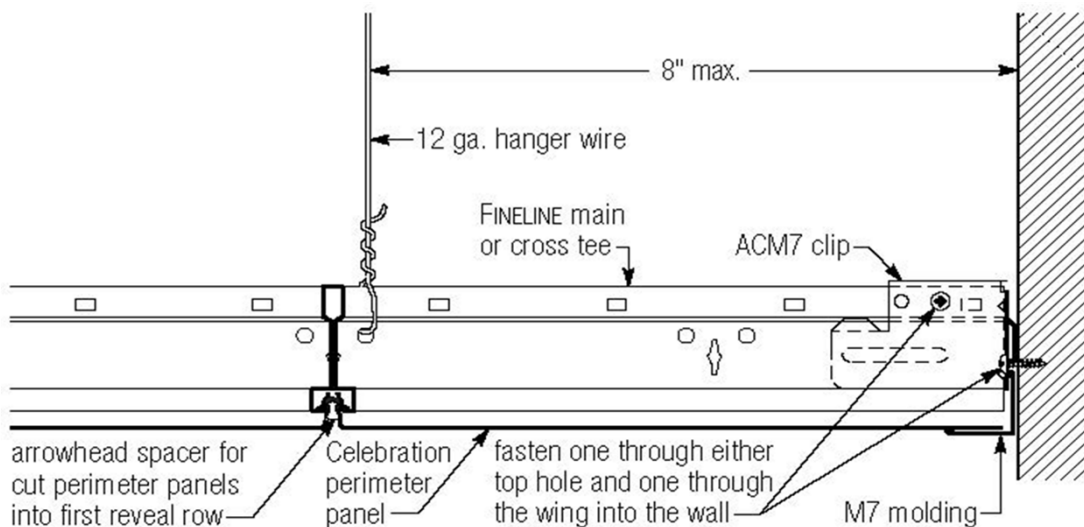
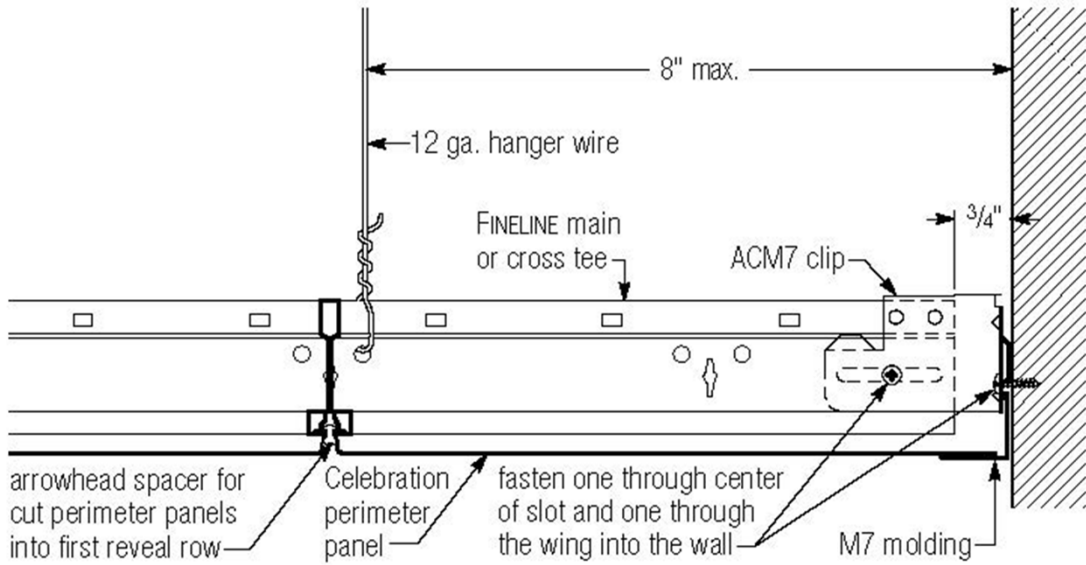

Figure 9 - Use of the ACM7 Seismic Clip Alternative in the **Fixed Perimeter Condition**
Figure 10 - Use of the ACM7 Seismic Clip Alternative in the Floating Perimeter Condition
- Installations alternative to ASTM E580 have been approved to meet the requirements for a seismic resistive suspension ceiling when tested to ICC-ES AC156. See Figure 9 and Figure 10 for approved seismic installation alternatives.
1. ASTM Class is valid when the ceiling grid is installed in accordance with ASTM C636 and/or ASTM E580. Alternative installation options shown in Figure 9 and Figure 10 have been qualified through shake table testing in accordance with ICC-ES AC156.
USG Celebration Snap-In Metal Ceiling Panel Systems have been tested by means of a shake table, in accordance with AC156, to allow alternative installations using the USG ACM7 Seismic Clip; see Figures 9 and 10. The alternative installation for Seismic Design Category D, E and F, utilizes a 7/8" M7 Wall Angle in conjunction with the ACM7 Seismic Clip, as an alternative to the standard 2" wall angle specified in ASTM E580. In the seismic test for Seismic Design Category D, E and F, the total load of the ceiling system was 4.8 psf. The alternative installation for Seismic Design Category C utilizes a 7/8" M7 Wall Angle in conjunction with the ACM7 Seismic Clip, as an alternative to the wall angle and stabilizer bars.